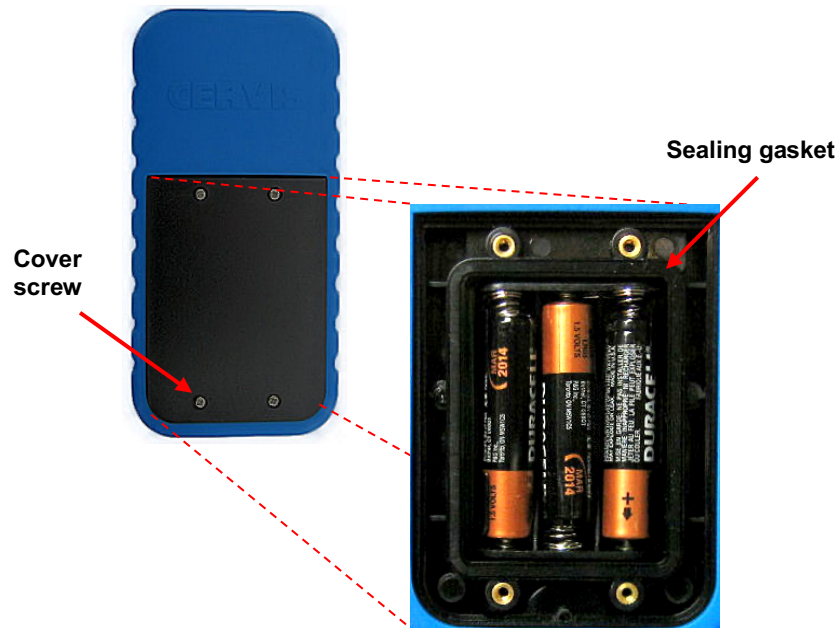

Figure 4. Handheld Battery Installation
2. If installing batteries in an empty battery compartment, install three fresh size “AAA” batteries. Be sure to position the batteries as shown in Figure 4 below.
3. If replacing expired batteries, remove the old batteries and install three fresh size “AAA” batteries. Be sure to position the batteries as shown in Figure 4 below.